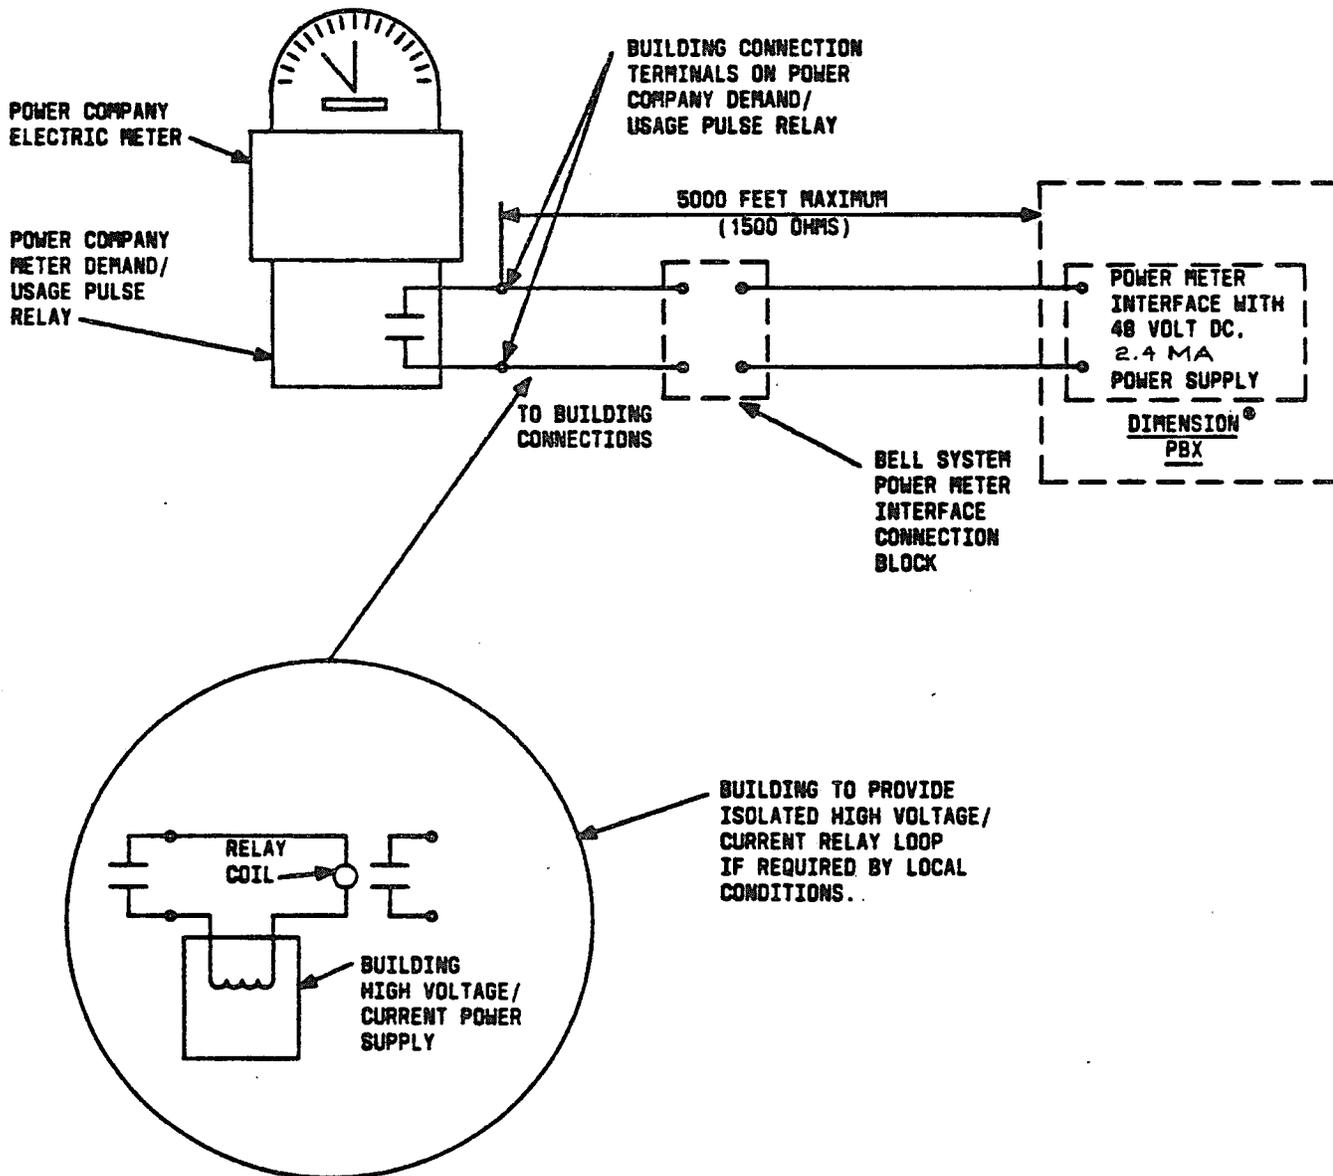

Fig. 2 - Power Meter Interface Circuit
- 4.5 Connect telephone wire to the two x-conn terminals found in step 4.3 and route to and terminate on connecting block. Note the overall 5000 feet maximum distance limitation (see Fig. 2).